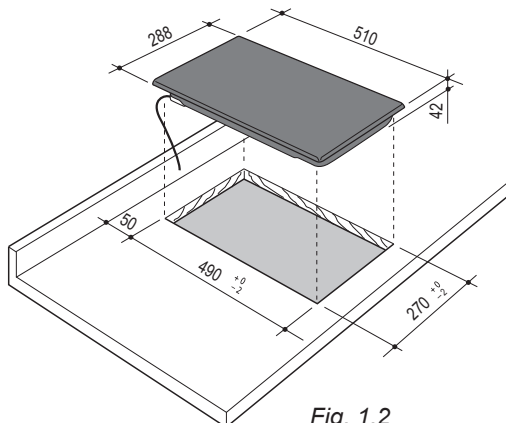

Fig. 1.2
- The hob must be installed at least 50 mm from the wall (from rear edge of cutout - fig. 1.2).